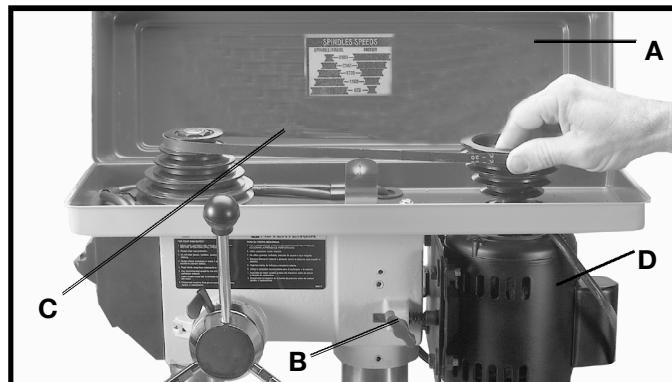

Fig. 26
- Lift up the belt and pulley guard (A) Fig. 26.
- Release belt tension by loosening tension lock knob (B) Fig. 26, and pivoting the motor (D) toward the front of the drill press.
- While holding the motor toward the front of the drill press, position the belt (C) on the desired steps of the motor and spindle pulleys, as shown in Fig. 26.
5. After the belt is positioned on the desired steps of the motor and spindle pulleys, move motor (D) Fig. 26, to the rear until the belt is properly tensioned and tighten tension lock knob (B). The belt should be just tight enough to prevent slipping. Excessive tension will reduce the life of the belt, pulleys and bearings. Correct tension is obtained when the belt (C) can be flexed about 1" out of line midway between the pulleys using light finger pressure.